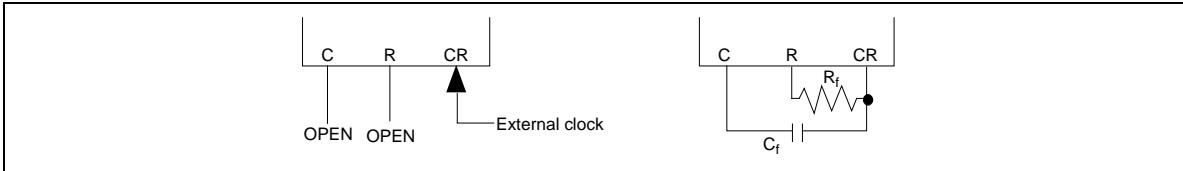

Figure 1 Oscillator Connection in Master Mode
- CR Oscillator:** The CR oscillator generates the HD66523 operation clock. During master mode, since the operation clock is needed, connect oscillation resistor R_f with oscillation capacitor C_f . When the external clock is used. Input external clock to pin CR and open pins C and R (Figure 1).